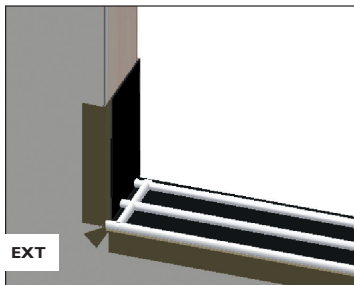

FIG. 14
- Apply a 1/4" continuous bead of silicone 1/2" from each side of the rough opening. The bead will run the entire depth of the jamb starting at the face of the wall. (Fig. 14)